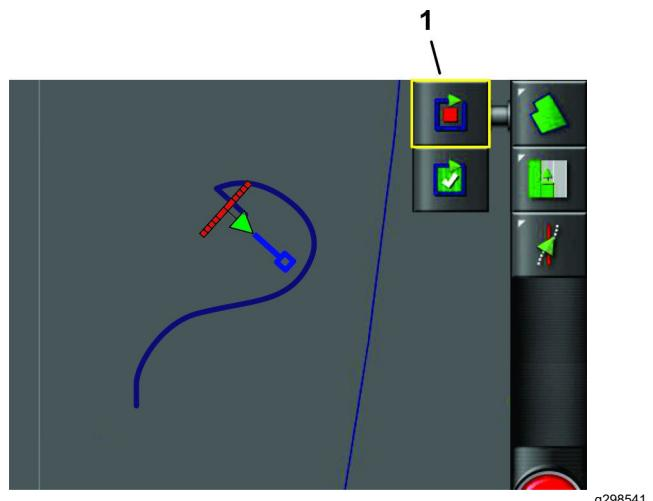

Figure 43
3. Align the machine into position (Figure 43).
4. Press the RECORD FIELD BOUNDARY icon to begin recording again, and continue driving the machine to define the boundary perimeter (Figure 43).